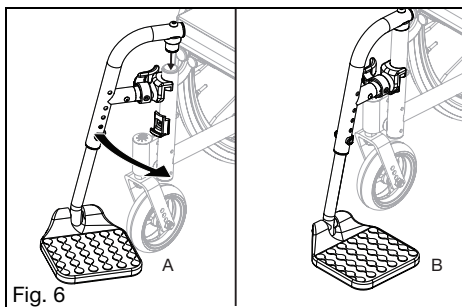

Fig. 6
- Place swing away pivot saddle into the receiver on the front frame tube with the footrest facing either inward or outward from the frame (Fig. 6:A).
- Rotate the footrest so it aligns with the frame and locks into place in the latch block (Fig. 6:B).